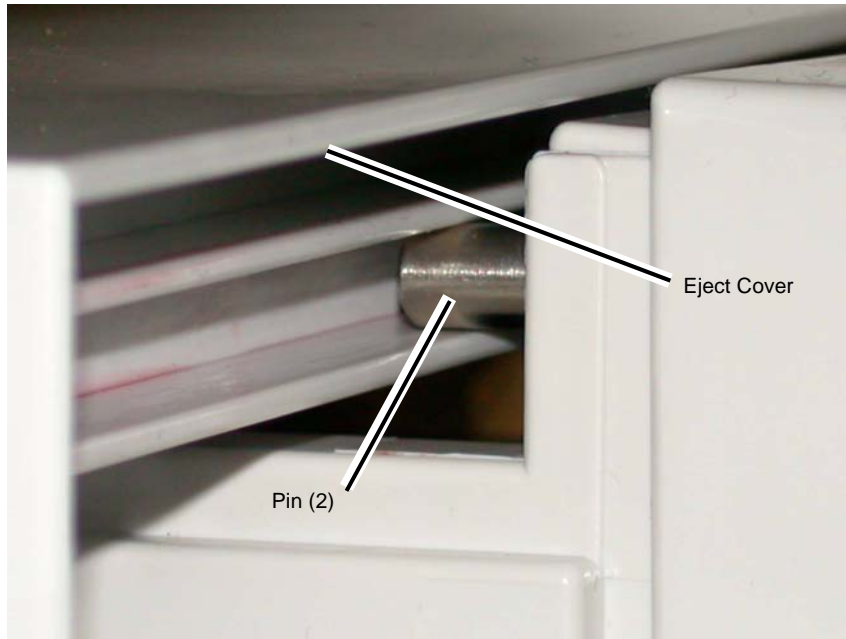

Figure 2 Aligning the Eject Cover
1. Align the Eject Cover with the Pins (2) on both sides, and slide it to the right (Figure 2).